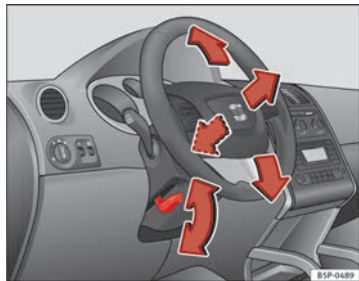

Fig. 134 Adjusting the steering wheel position
- Push the lever under the steering column ⇒ fig. 134 down ⇒ ⚠.